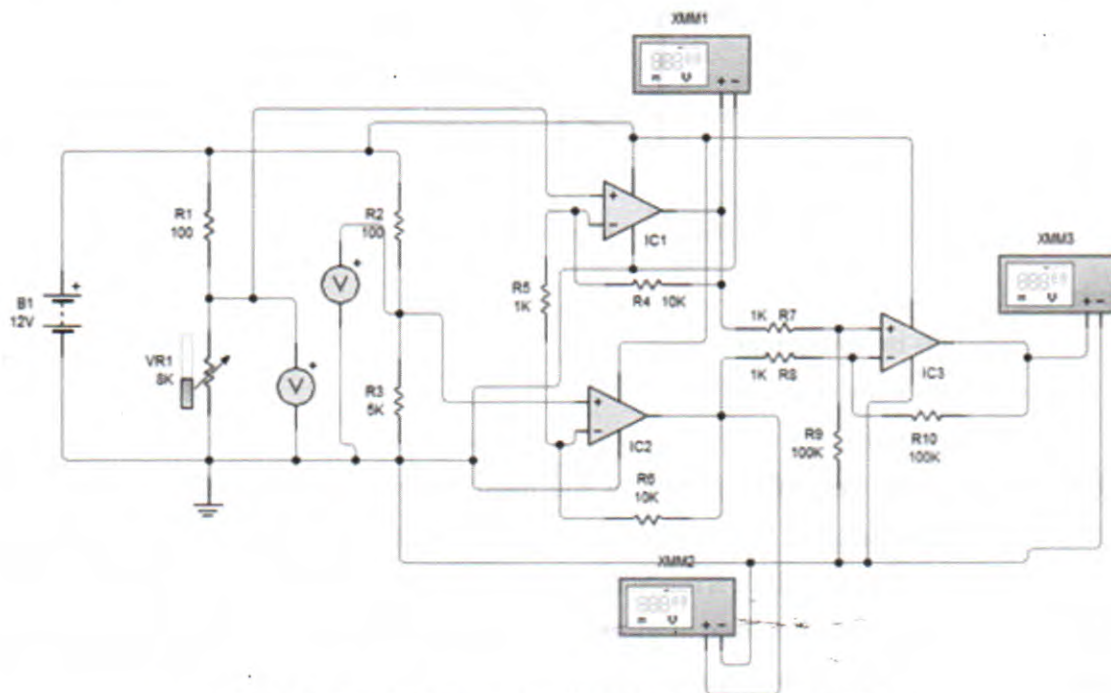

Figure 3.3: Circuit Diagram to simulate an Instrumentation Amplifier
1. Carefully study the circuit diagram of Fig. 3.3 and explain with the aid of a block diagram the stages of the signal processing of the amplifier.
- i. Build and simulate the circuit in Fig. 3.3.